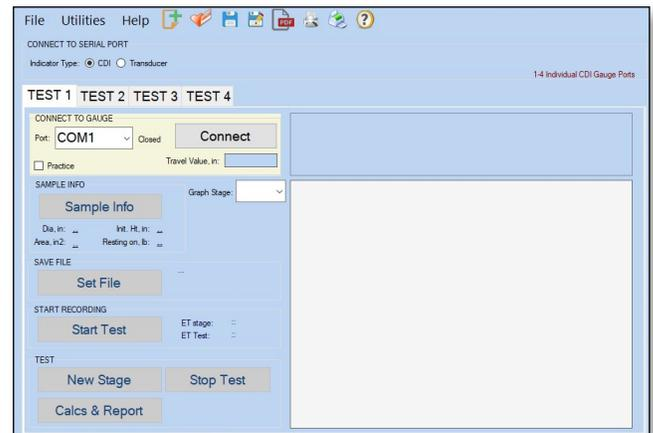
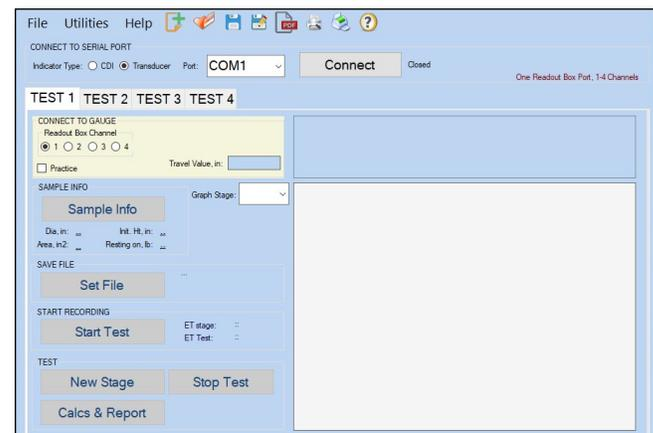

Figure 4: Establishing a Connection to a Digital Dial Indicator
Figure 5: Establishing a Connection to a Data Readout Box
- c. Select the Indicator type, CDI for a digital dial indicator (Figure 4) or Transducer for a DISPLACEMENT TRANSDUCER (Figure 5). When using a data readout box, a **Readout Box Channel** must be selected.